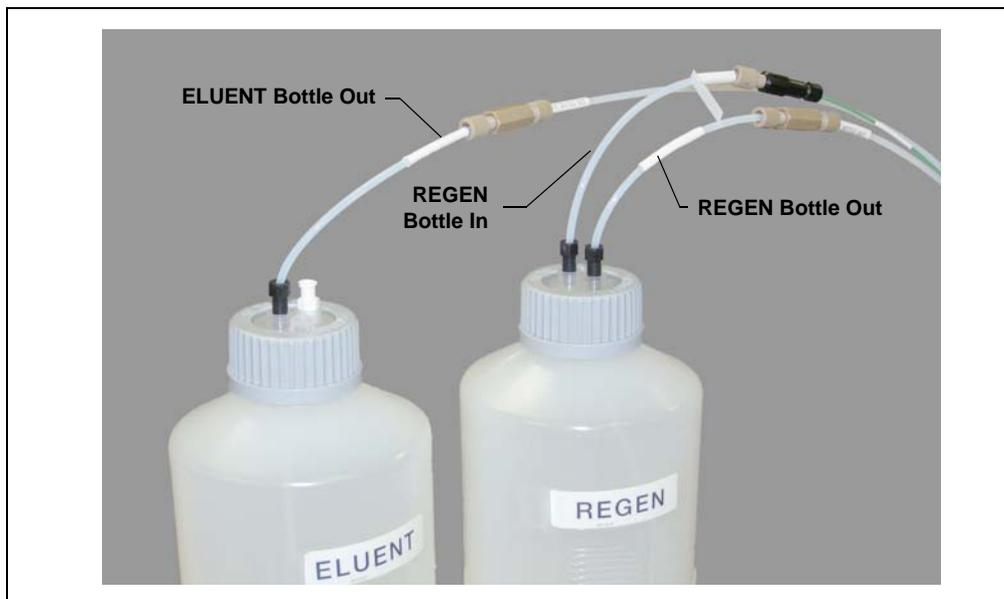

Figure 3-2. Eluent and Regenerant Bottle Liquid Line Connections
10. Verify that the liquid lines from the **ELUENT** and **REGEN** bottles are connected to the corresponding lines from the Dionex Easion (see Figure 3-2).